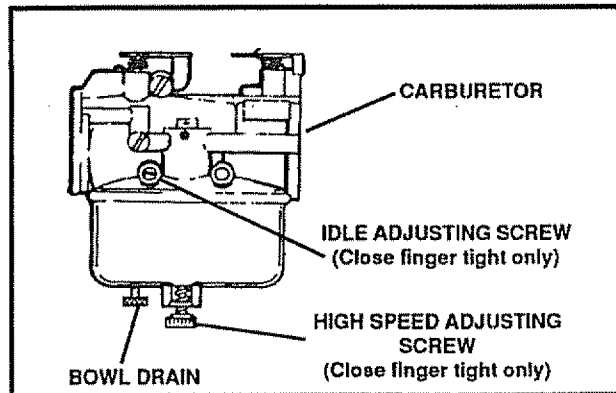
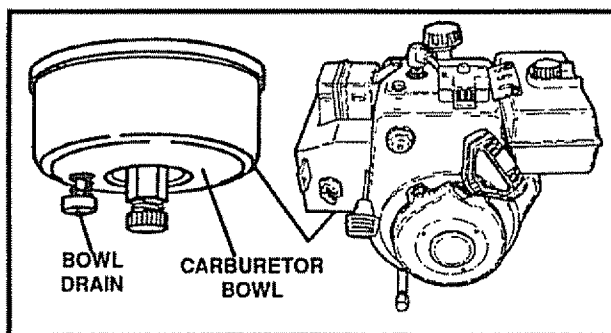

FIG. 35
FIG. 37
The carburetor (See Fig. 35 and Fig 37(page 25) has been pre-set at the factory and readjustment should not be necessary. However, if the carburetor does need to be adjusted, proceed as follows:
- To remove gasoline, run the engine until the tank is empty and the engine stops. Then drain remaining gasoline from carburetor by pressing upward on bowl drain located on the bottom of carburetor (See Fig. 37).